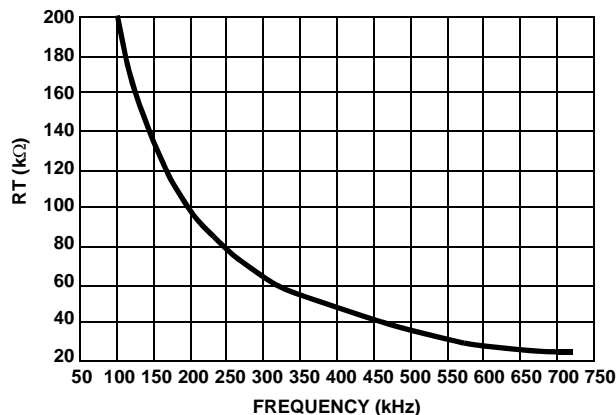

FIGURE 3. RT vs FREQUENCY
**RT** - Connect an external resistor from this pin to ground for frequency selection. Refer to RT vs Frequency curve of Figure 3.
The ISL6406 offers adjustable frequency from 100kHz to 700kHz by changing external resistor connected at pin RT. Figure 3 shows the typical RT vs Frequency variation curve.